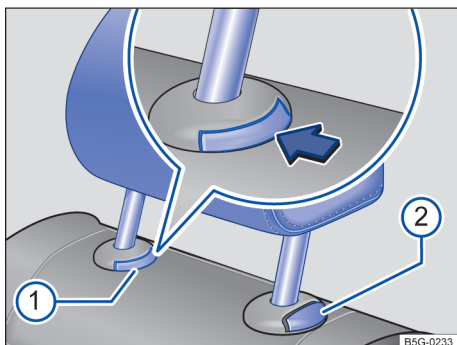

Fig. 73 Removing the rear head restraints.
- Push button → fig. 73 ❶ in the direction of the arrow and hold it in this position.
- At the same time press button ❷ while a second person pulls out the head restraint completely.
- Push the head restraint down while pressing button → fig. 73 ❷.